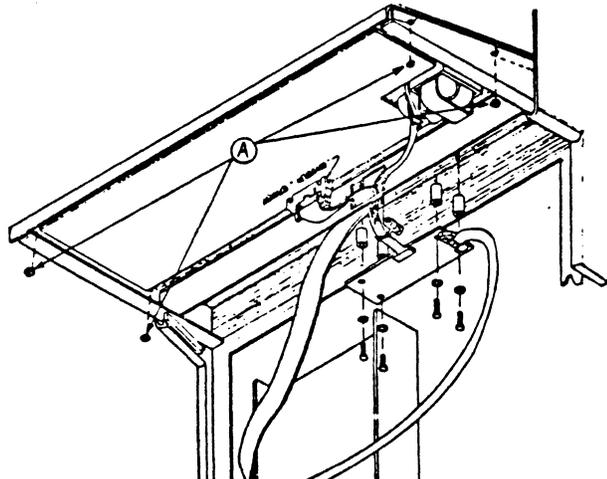

Figure 1-14 Keyboard and Joystick Interface
1-12.1 Keyboard Removal (Fig. 1-14)
2. Underneath the keyboard in each corner is a 1/4" nut with a star washer. Remove the items identified by A in Fig. 1-14.
1-14.1 Joystick Interface Removal (Fig. 1-14)